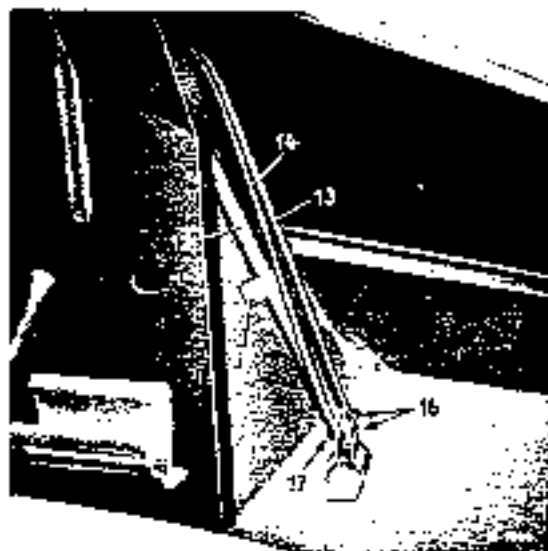

Fig. 47-1/4
9. Install the vent tube (12) on the right wheel arch pan in the trunk compartment. To do this drill a 14 mm \varnothing hole and two 9 mm
\varnothing holes into the floor panel of the trunk compartment and fit suitable rubber grommets (16) and (17) in the bases. Now install the vent tube so that the tube projects approx. 5-10 mm beyond the rubber grommet and then fix it to the wheel arch by means of a pipe clip (15) (Fig. 47-1/4).